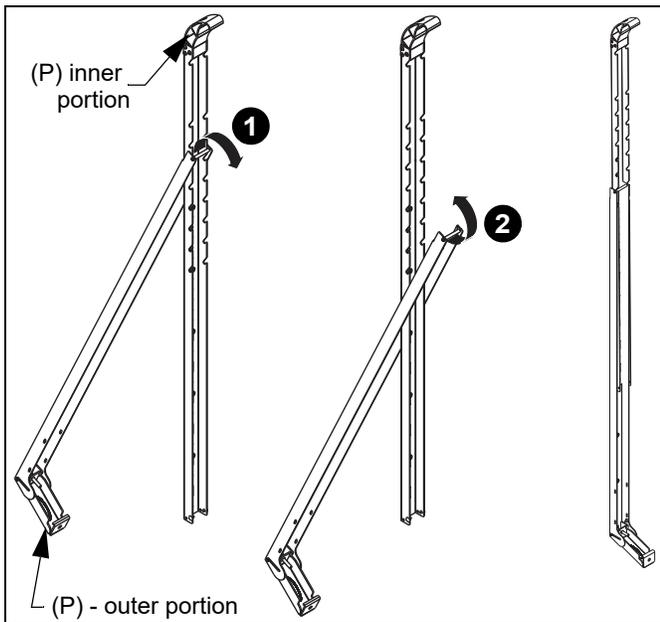

Figure 1
1. Tip and lift outer portion of upright assembly out of the shipping slot, and slide down to extend the length of OB1U leg. (See Figure 1)
2. Choose a slot to set the correct length of entire upright assembly, and tip outer portion upright into appropriate slot. (See Figure 1)
3. Repeat Steps 1 and 2 on the other upright assembly (P).